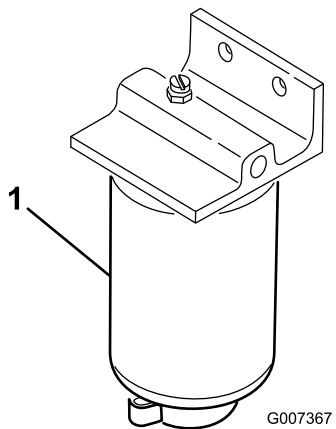

Figure 38
1. Place a clean container under the fuel filter (Figure 38).
2. Clean the area where the filter mounts (Figure 38).